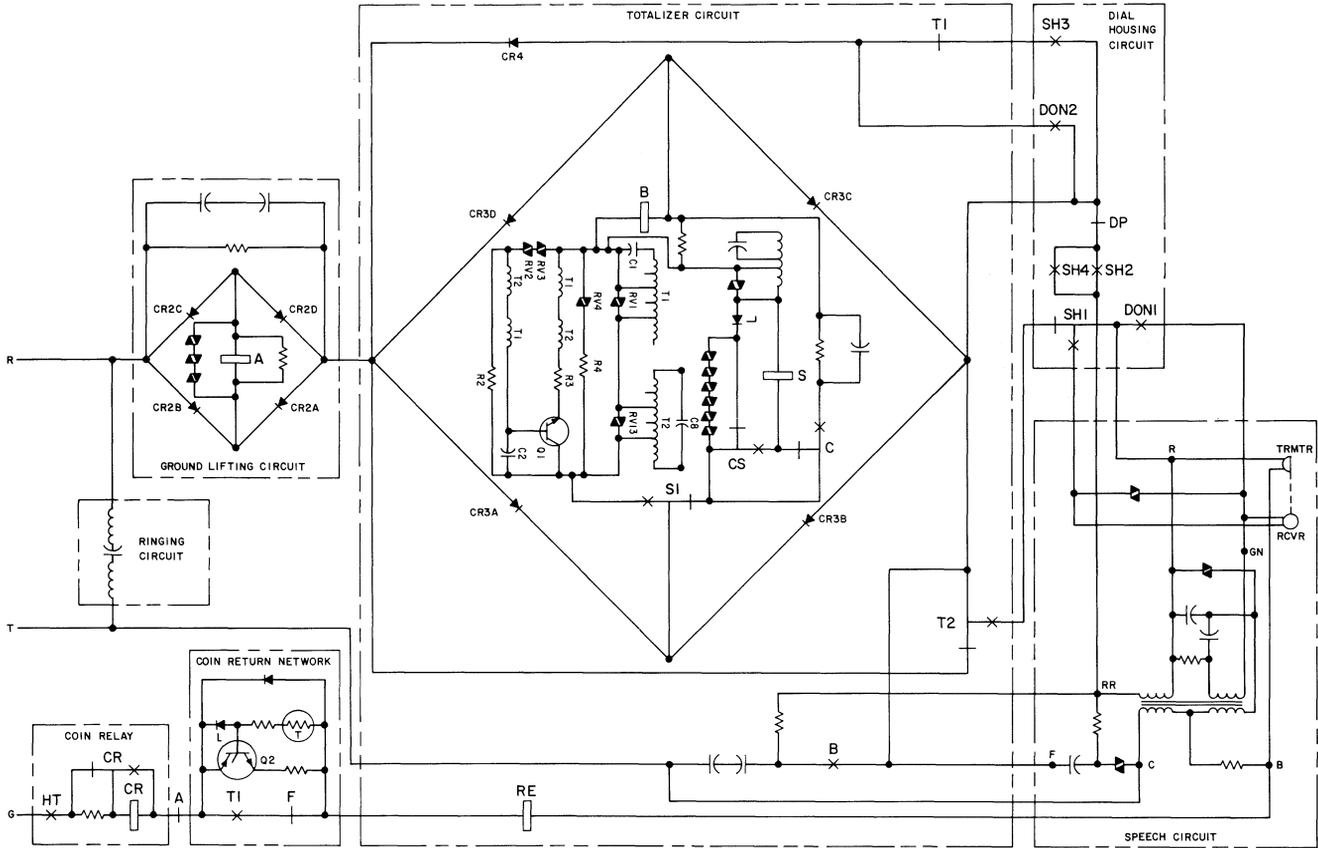

Fig. 9—1C1/2C1 Coin Telephone Set—Schematic (DTF Mode)
### G. Other Component Circuits (Fig. 9 through 12)
### 2.21 Ground Lifting Circuit (Used in DTF only) (Fig. 9 and 10).
### 2.22 Coin Return Network (Used in DTF only) (Fig. 9 and 10).
**DIAL-TONE-FIRST SERVICE (Fig. 9 and 10)**